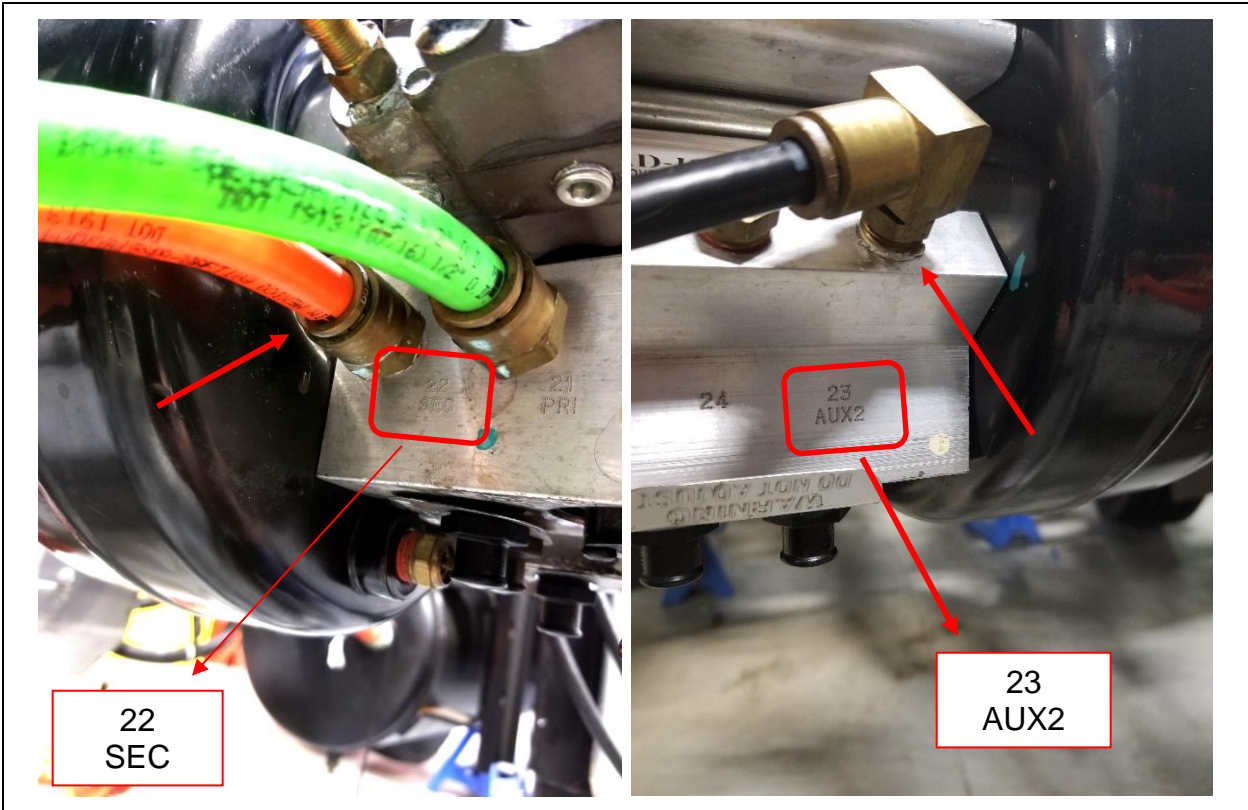

Figure 5
4. Disconnect the 1/2" line from "22 SEC" connector at the air dryer (see Figure 5) and the other end from the secondary reservoir.
5. Disconnect one end of the 3/8" exhaust brake air line from "23 AUX" connector at the air dryer connector. (See Figure 5.)